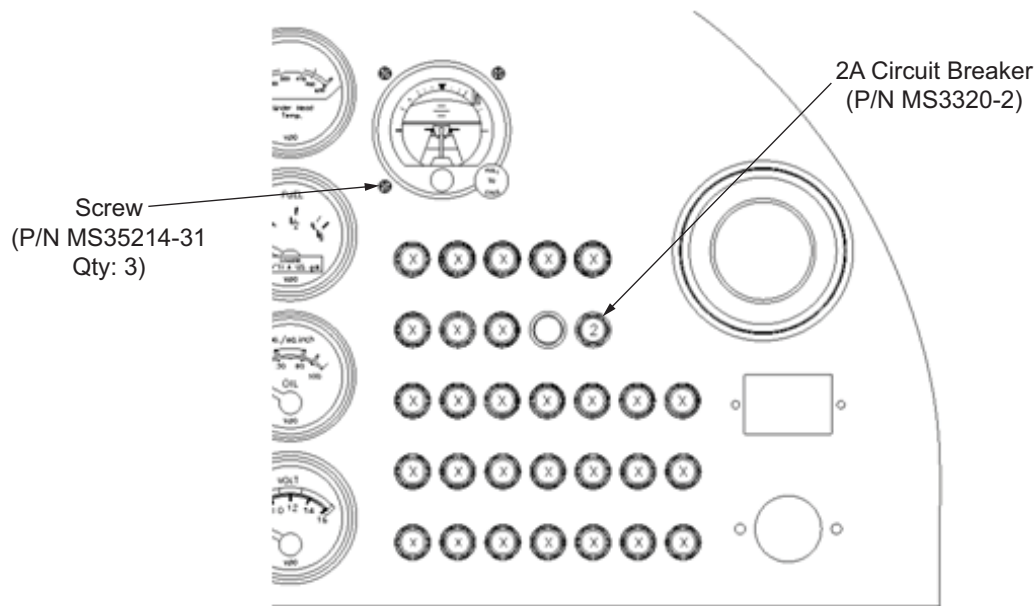

Figure 11
- 10.15 Install 2A circuit breaker (P/N MS3320-2) into the location shown in Figure 11.